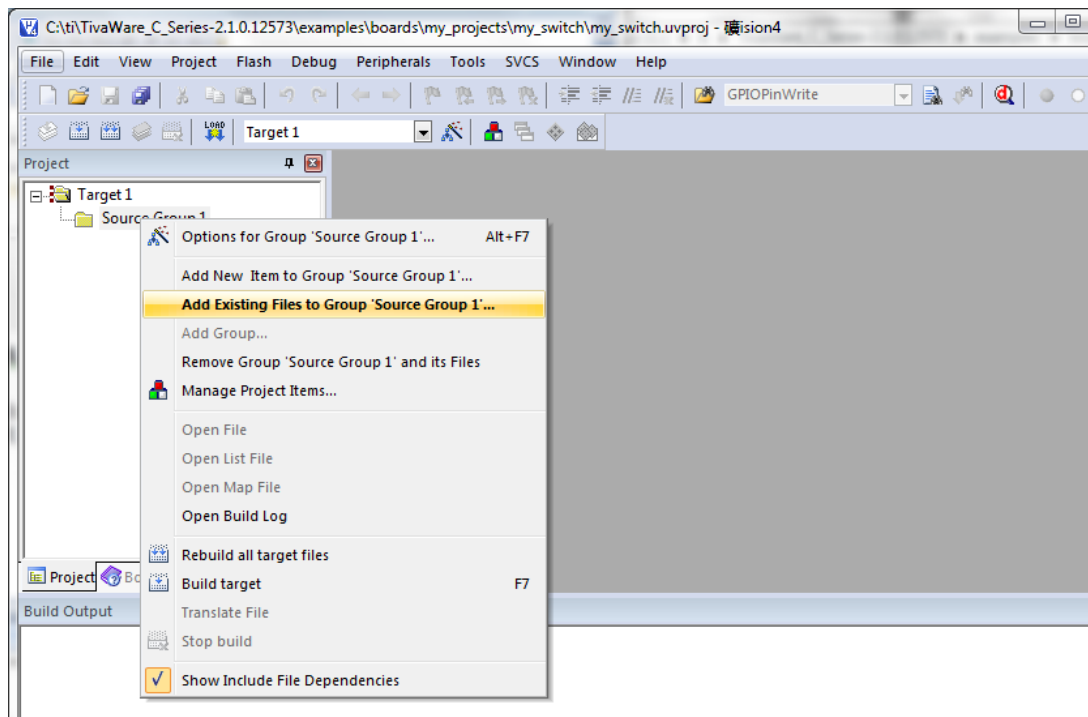
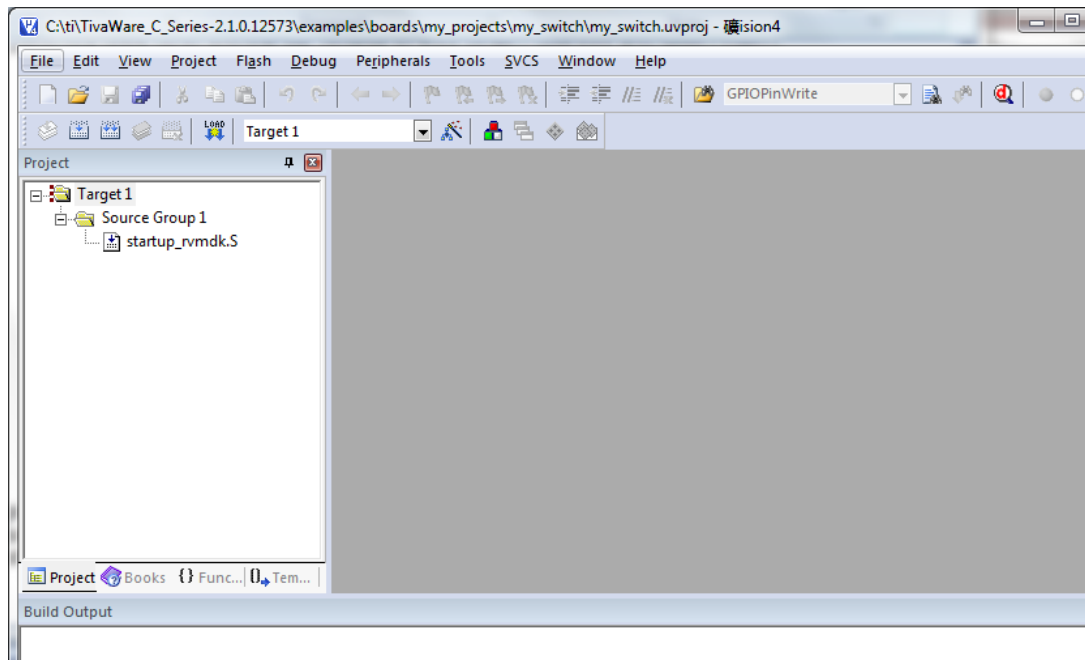

Figure 19
Figure 20
6. Next we will add the startup code to our project. Right-click the *Source Group 1* folder in the μ Vision IDE and select *Add Existing Files to Group 'Source Group 1'...* (see Figure 19). When the dialog box pops up to find the file, browse to your project directory, select **startup_rvmdk.s**, and add it to *Source Group 1* (see Figure 20).